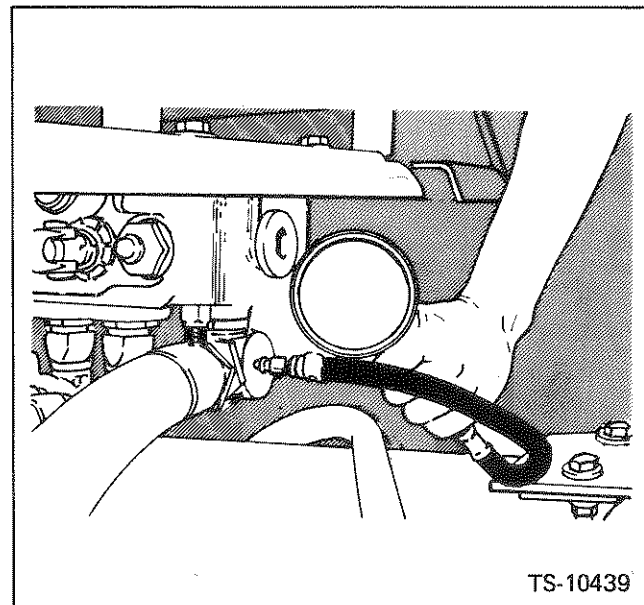

Fig. 11-3. Main Relief Valve Pressure Check
3. Attach a hydraulic gauge of at least 3,000 p.s.i. capacity to the hose fitting on the main control valve. Fig. 11-3
7. Put the tilt blade into a full tilt position and hold. The gauge should register 2,200 p.s.i. at 2,000 rpm. Fig. 11-3. If not, adjust the main relief valve by removing the acorn nut loosening the jam nut and adjusting the set screw